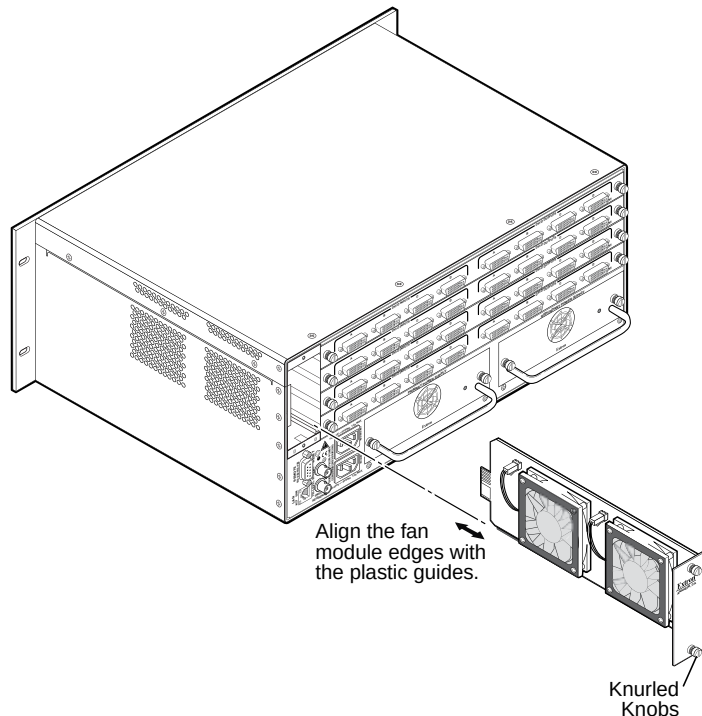

Figure 15. Remove and Install a Fan
2. Rotate the top and bottom knurled knobs to completely loosen the captive screws (see figure 15).